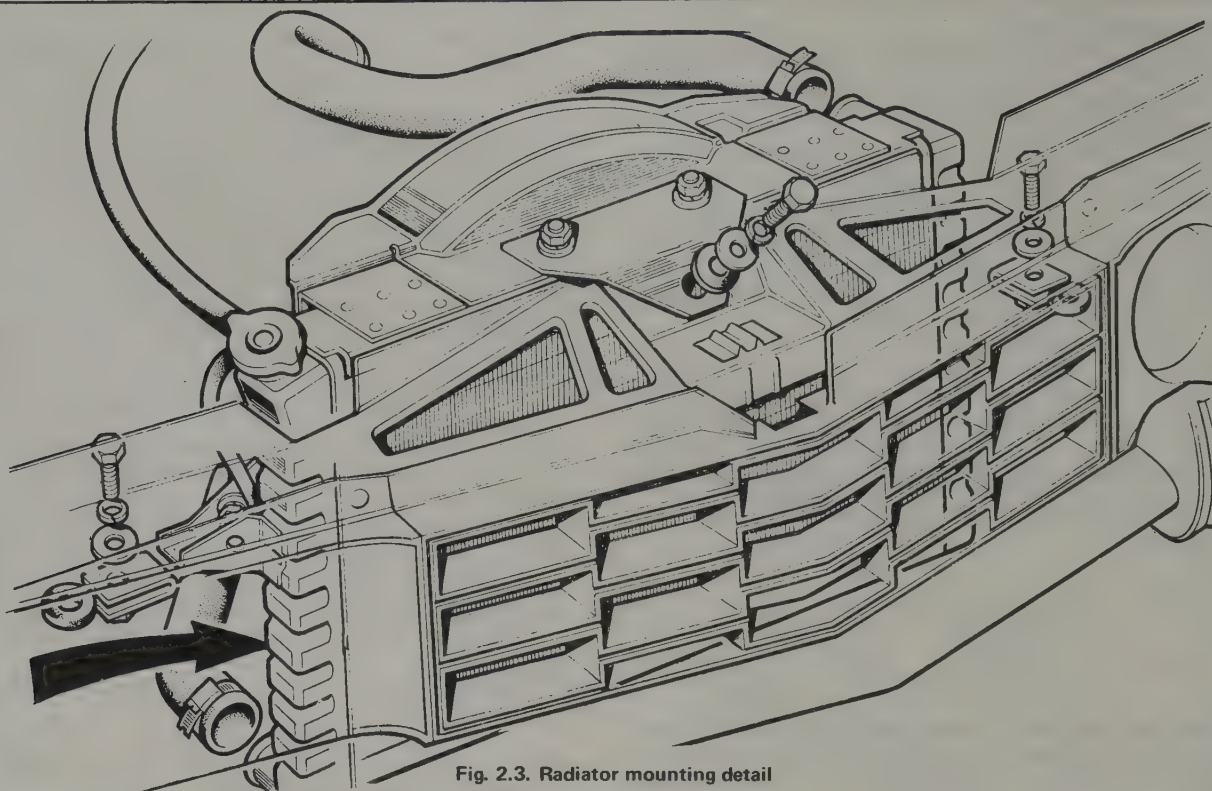

Fig. 2.3. Radiator mounting detail
- 2 Remove the fan guard and cowl if fitted (Fig. 2.3).